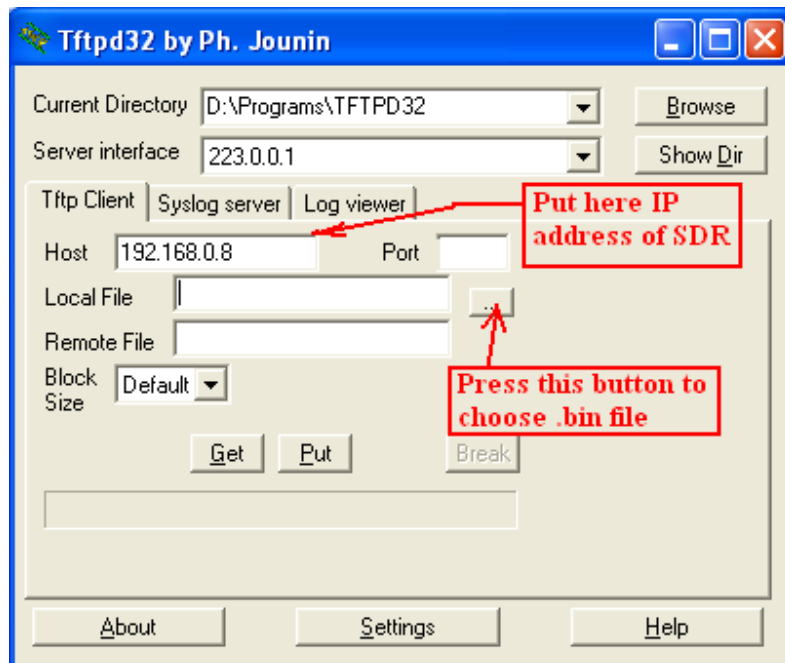

Figure 8 Tftpd32 utility (red color writings shows author's comments)
3.1.5. You need to start tftpd32.exe utility, screen-shot of this utility is shown on **Figure.8**
After first start of this utility you can (but not must) configure it to run only in tftp client mode, to do this you need to press "Settings" button (see **Figure.8**). In "Tftp Client" tab you need to enter IP address of AFE822x SDR-Net receiver.